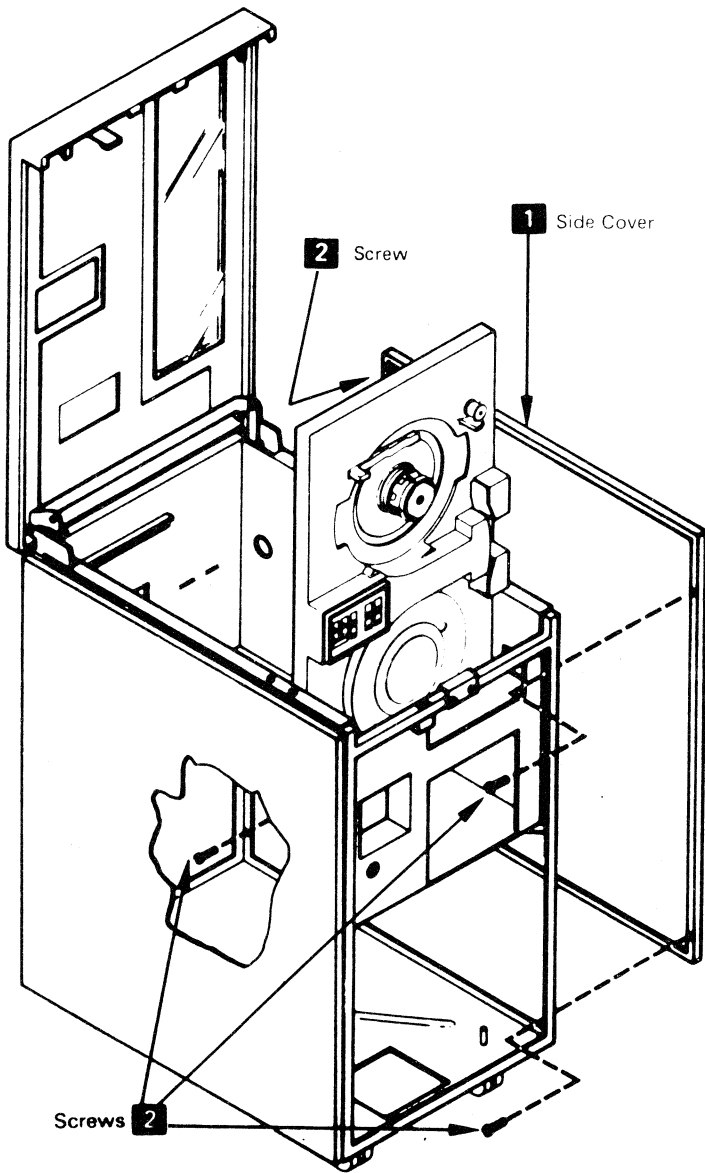

Figure 2. Side Cover Removal
- 3. Remove the side covers **1** from the tape unit by removing the four screws **2** as shown in Figure 2.